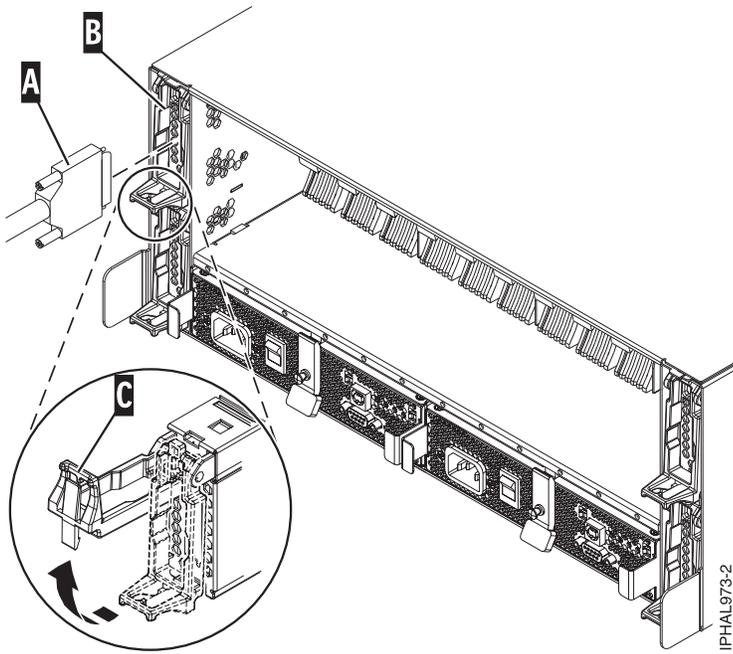

Figure 24. SCSI cable to a single repeater card
- If you are using only single repeater cards or only dual repeater cards, connect your SCSI cable (**A**) to the initiator repeater card (**B**). For more details, see Figure 24 on page 56, Figure 25 on page 56, Figure 26 on page 57, depending on your situation.